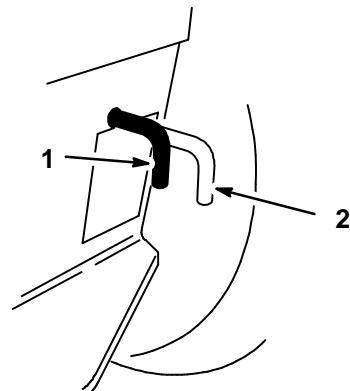

Figure 16
2. Move the drive control rod to the "PUSH" position. This disengages the drive system and allows the wheels to turn freely (Fig. 16).
1. Apply the brake, this moves the drive control rod to "OPERATE" and engages the drive system, or move the drive control rod to the "OPERATE" position (Fig. 16).